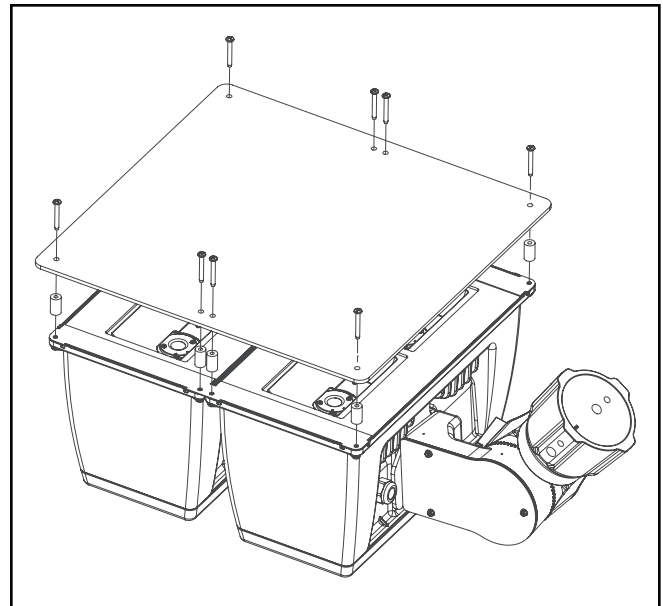

Figure 6.
### Vandal Shield (Figure 6.)
1. Loosen and remove the existing (8) 10-24 Philips head screws on the face of the fixture.
2. Align (8) 7/8" long spacers with existing holes.
3. Use (8) 10-24 x 1-1/2" screws to secure vandal shield on top of fixture. (Figure 6.)